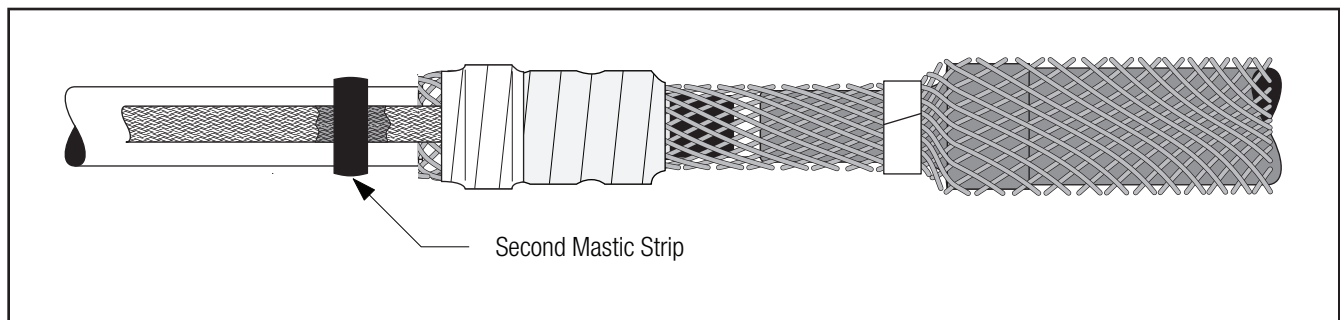

Figure 40
7.5 Place other strip over the solder blocks. Press the mastic strips around the solder block and to the cable jacket. If tails overlap at the solder blocks, place a piece of mastic between them (Figure 40).